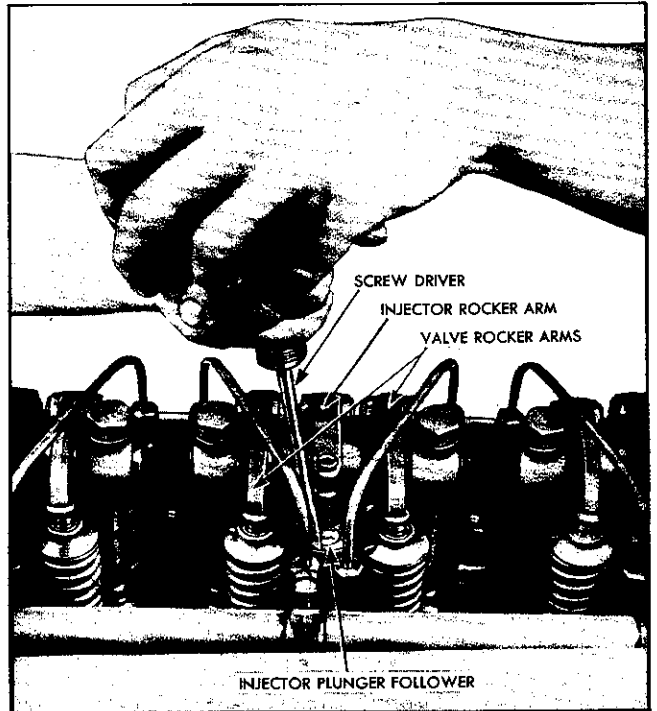

Fig. 36—Cutting Out an Injector While Engine is Running.
- (a) Run engine at idling speed and cut out each injector in turn to determine faulty cylinder. Injector is cut out by holding follower down with screwdriver while engine is running as illustrated in Fig. 36.